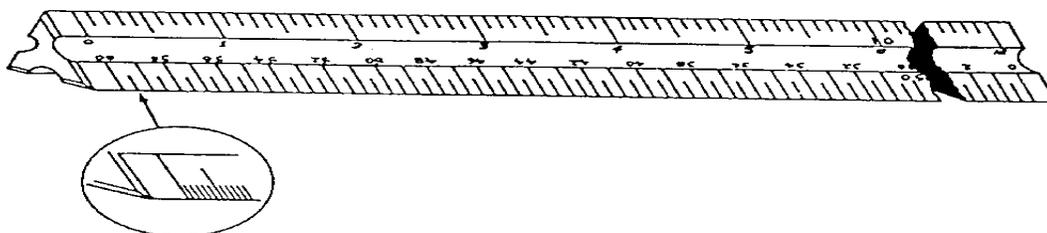

Figure 5, Engineer's Scale
6.2. Engineer's Scale. Engineer's scales (Figure 5) are divided into decimal graduations (10, 20, 30, 40, 50, and 60 divisions to an inch). These scales are used for plotting, map drawing, and the graphic solution of problems.